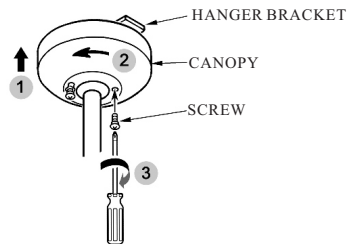

FIG.10
4. Mount the canopy on the hanger bracket and tighten the screws. (see Fig.10)